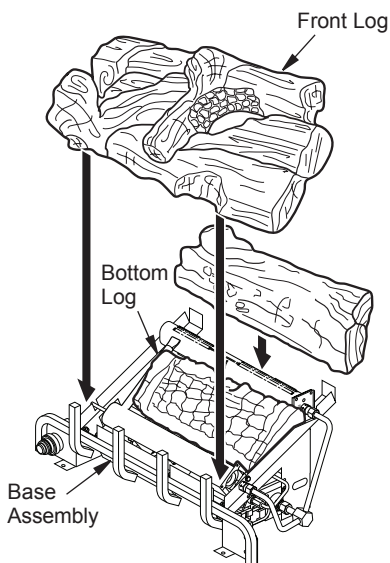

Figure 29 - Installing HRB Model Log Sets
1. Place bottom log in center of the base assembly as shown in Figure 29.
2. Rest rear log in back corner sections of base assembly as shown in Figure 29. Make sure log is completely vertical and not leaning in toward burner where the flame will touch the log.
3. Position front log as shown in Figure 29, making sure the grooves in the bottom of the log fit over the grate prongs.